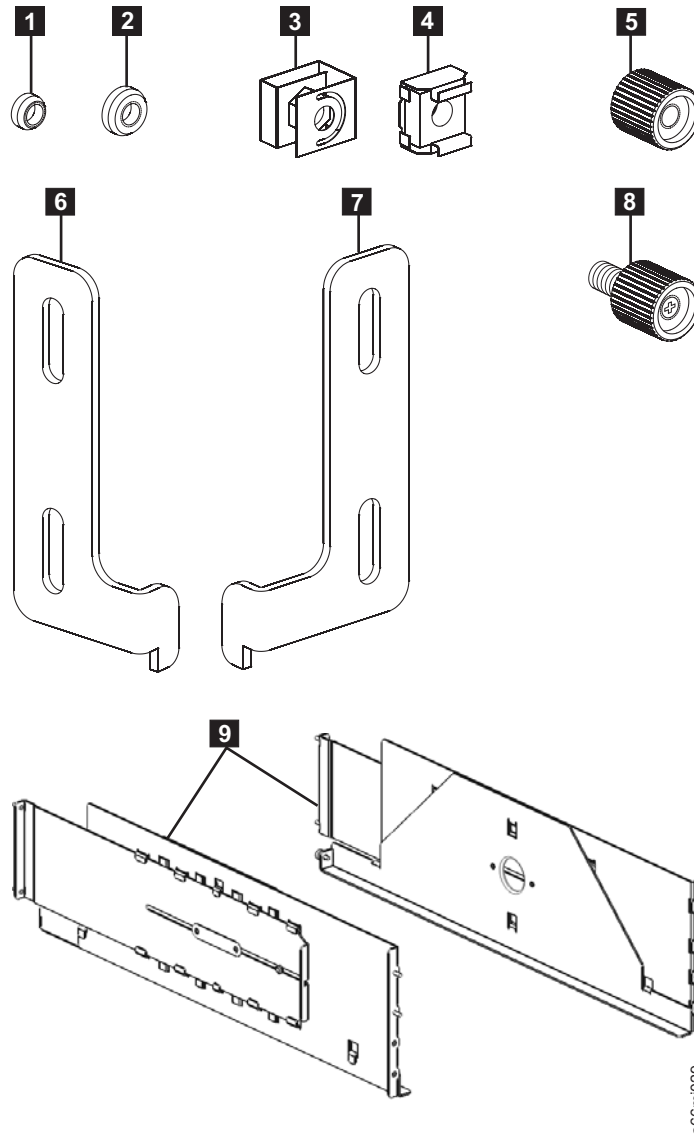

Figure 3-12. Rack Mount Kit hardware (parts not sized proportionately in figure)
16	Centering nuts: <ul style="list-style-type: none"> <li>• 8 for racks with round holes ( 1 in Figure 3-12)</li> <li>• 8 for racks with square holes ( 2 in Figure 3-12)</li> </ul>
8	Black thumb nuts ( 5 in Figure 3-12)
2	Rack ears ( 6 and 7 in Figure 3-12)
4	Rack ear screws ( 8 in Figure 3-12)
2	Rails ( 9 in Figure 3-12)
8	Clip/Cage nuts: <ul style="list-style-type: none"><li>• 4 clip nuts for racks with round holes ( 3 in Figure 3-12 on page 3-13)</li><li>• 4 cage nuts for racks with square holes ( 4 in Figure 3-12 on page 3-13)</li></ul>
2	Rack ears ( 6 and 7 in Figure 3-12 on page 3-13):
4	Rack ear screws ( 8 in Figure 3-12 on page 3-13):
The rails ( **9** in Figure 3-12 on page 3-13) in the Rack Mount Kit will be used to support the bottom unit of your library, and require 5 EIAs (or 15 holes) of vertical rack space. However, there are only 4 rail studs on each rail, positioned in a staggered manner for increased stability. For proper installation, you must first determine where the bottom of your library will be, then identify which holes you'll use for the rail studs and place either cage nuts (for racks with square holes) or clip nuts (for racks with round holes) in the appropriate locations.
3. Install clip nuts (**3** in Figure 3-12 on page 3-13) for vertical rack rails with round holes or cage nuts (**4** in Figure 3-12 on page 3-13) for vertical rack rails with square holes in the front rack rails in the marked positions.
- Install clip nuts (**3** in Figure 3-12 on page 3-13) for vertical rack rails with round holes or cage nuts (**4** in Figure 3-12 on page 3-13) for vertical rack rails with square holes in the front rack rails in the marked positions.
- Use the round hole centering nuts ( **1** in Figure 3-12 on page 3-13) for vertical rack rails with round holes.
- Use the square hole centering nuts ( **2** in Figure 3-12 on page 3-13) for vertical rack rails with square holes.
- b. Place a thumb nut ( **5** in Figure 3-12 on page 3-13) on each stud and tighten.